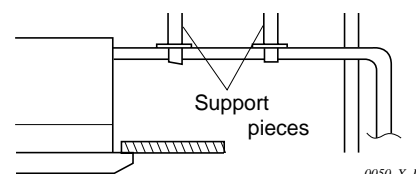

Fig. 3-43
- Do not apply force to the piping on the unit side when connecting the drain pipe. The pipe should not be allowed to hang unsupported from its connection to the unit. Fasten the pipe to a wall, frame, or other support as close to the unit as possible. (Fig. 3-43)